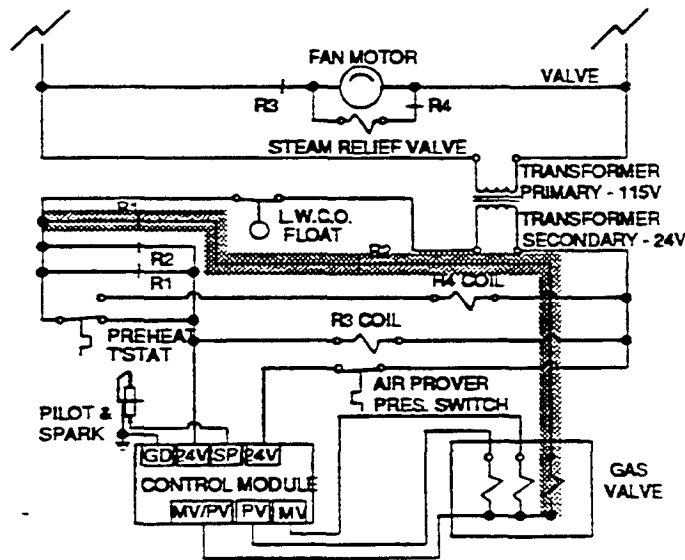

Figure 5-9. Partial Schematic - Combustion Components 24-CGA-10
2. Relay R1 is energized. The R1 contactor closes, by-passing the preheat side of the Preheat Thermostat in parallel with the R2 contactor. Refer to Figure 5-9. With both relays R1 and R2 energized, the closed contactors R1 and R2 also activate the second stage of the gas valve, increasing gas flow to the burners.